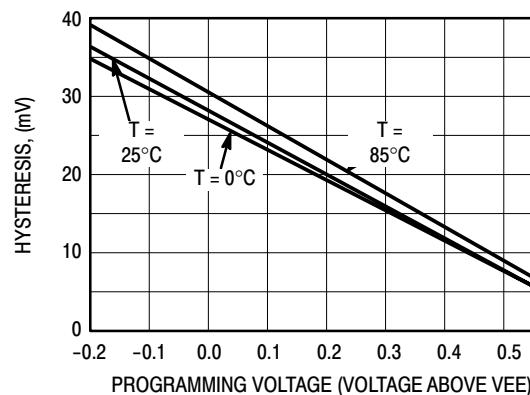

Figure 4. Hysteresis Programming Voltage
9. Refer to Figure 4 and note that the input is at 850 mV ECL levels with the input threshold range between the 20% and 80% points. The delay is measured from the crosspoint of the input signal and the threshold value to the crosspoint of the Q and \overline{Q} output signals.